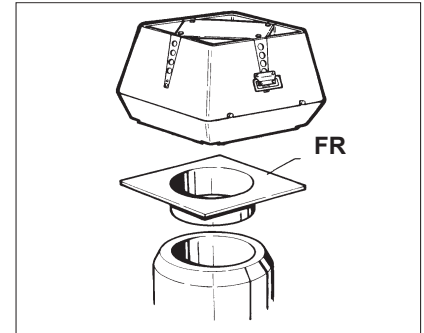

Fig 2
- Insert the adapter (FR) into the grease duct, where the long collar engagement ensures safe anchoring (See Fig. 2). If necessary, the adapter can be secured by means of long self-tapping stainless steel screws into the side of the collar through the chimney wall. Do not obstruct the grease flow.